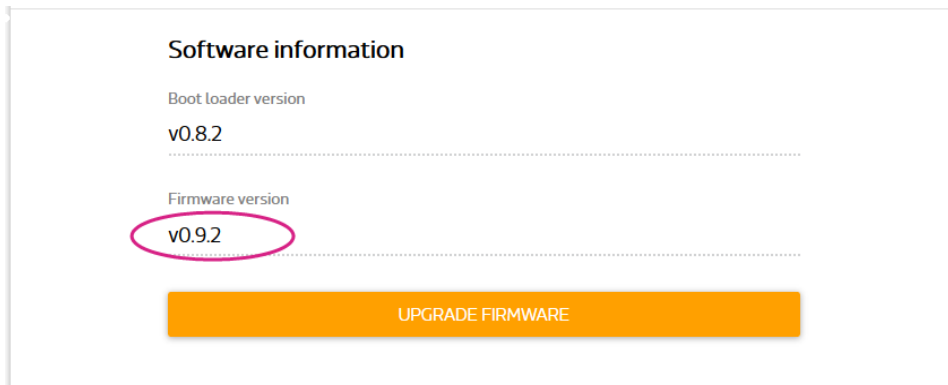

Figure 26 Firmware version
- After a few seconds, the Wi-Fi LED turns off. Use the Wi-Fi utility and scan for the LinkIt\_Smart\_7688\_XXXXXX AP and connect to it. Reload the mylinkit.local webpage. Set a new password and sign in to see the new firmware version in the software information as shown in Figure 26.